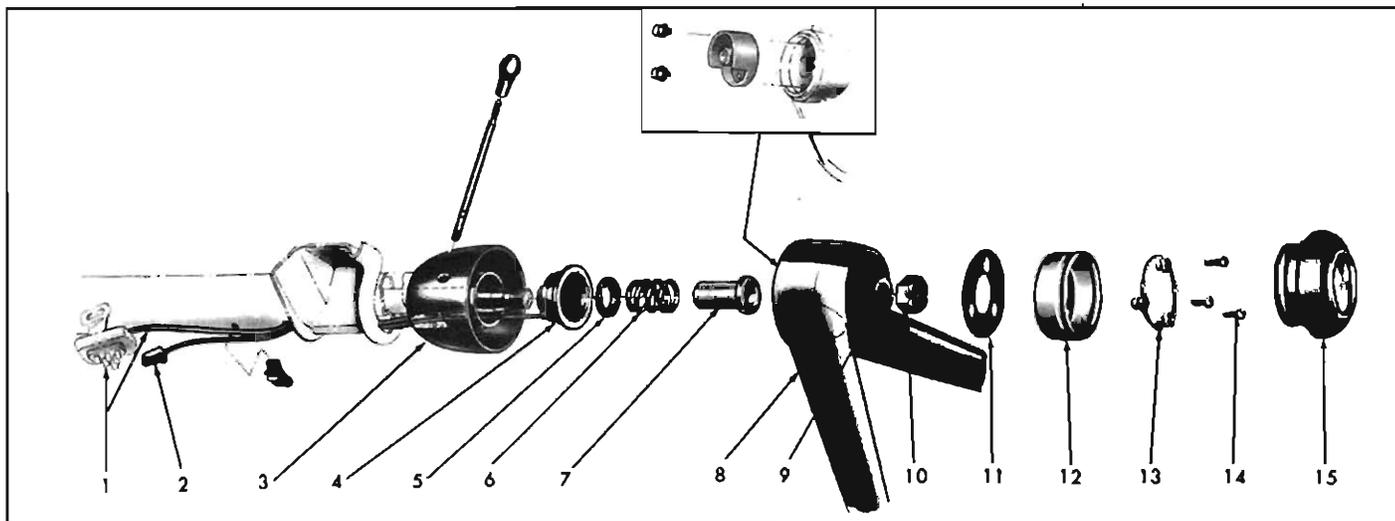

Fig. 3—Exploded View of Upper Mast Jacket and Steering Wheel
5. Install steering wheel as outlined in the 1961 Corvair Shop Manual making sure upper mast jacket bearing spacer is in place (Fig. 3). Torque steering wheel nut 25 to 35 ft. lbs.
With the steering wheel removed the upper mast jacket bearing and spacer may be pried out and a new assembly tapped into place. (Figure 3).